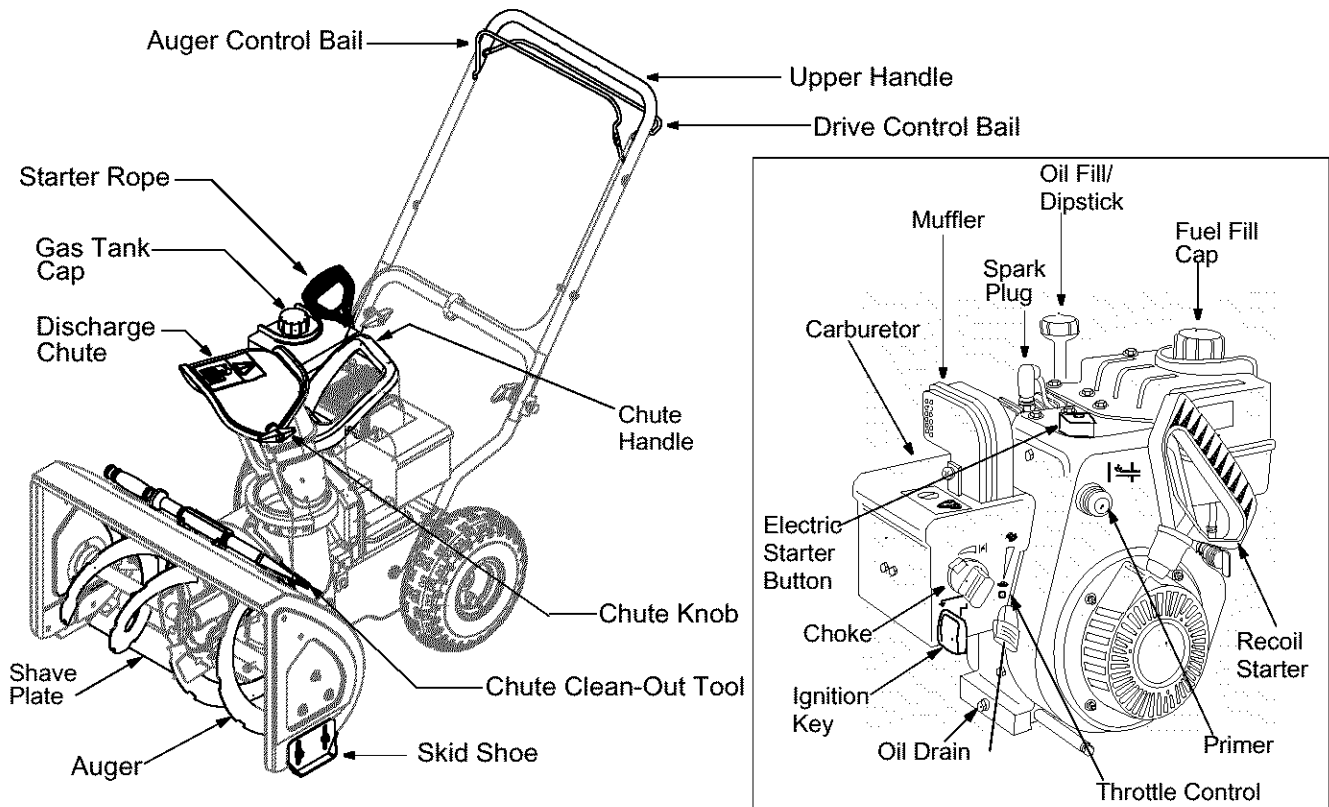

Figure 6
The space between the shave plate and the ground can be adjusted. Refer to Figure 6 for location of shave plate and skid shoes.
(See Figure 6.)
1. Remove the dipstick from the oil fill. For location of the oil fill, see Figure 6.
- For location of engine controls, see Figure 6 .